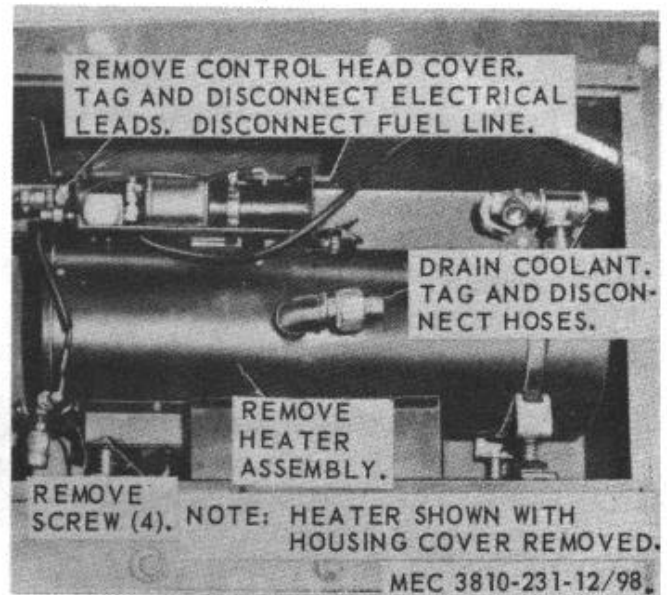

Figure 98. Engine coolant heater, removal and installation.
- a. *Removal.* Refer to figure 98 and remove engine coolant heater.
- (1) Clean heater and mounting hardware with an approved cleaning solvent and dry thoroughly.
- (2) Inspect heater and mounting hardware for distortion, cracks, breaks, or other damage. Replace all damaged or defective parts.
- c. *Installation.* Refer to figure 98 and install engine coolant heater on crane.
a. *Removal.* Refer to figures 98 and 99 and remove all coolant lines, fittings, and hoses, of engine coolant heater system.
- (1) Clean all parts with an approved cleaning solvent and dry thoroughly.
- (2) Inspect all parts for damaged threads, distortion, signs of leakage, wear, or other damage. Replace all damaged or defective parts.
c. *Installation.* Refer to figure 98 and 99 and install coolant lines, fittings, and hoses of engine coolant heater system.